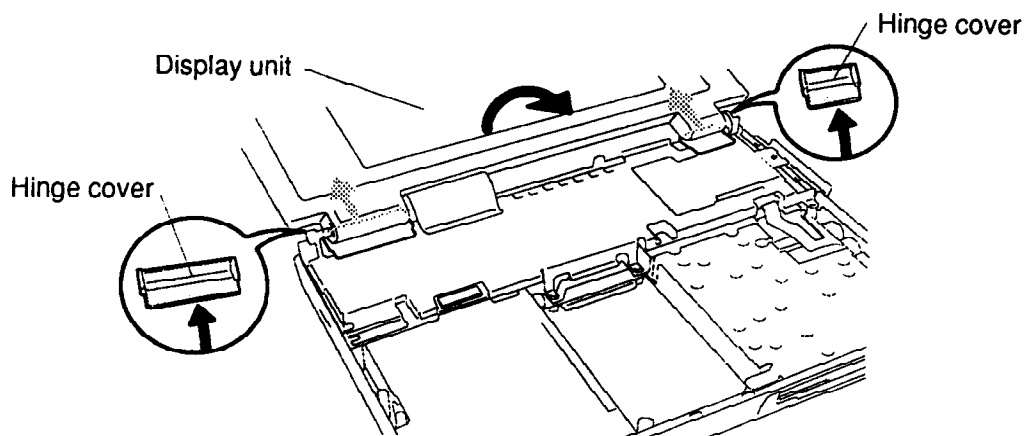

Figure 4-15 Removing the Hinge Covers
To remove the T1900/T1900C's display assembly, follow the steps below and refer to Figures 4-15 through 4-17.
3. Set the **display unit** at a 90° angle to the base and remove the **two hinge covers** from the left and right hinges (Figure 4-15).
To install the T1900/T1900C's display assembly, follow the steps below and refer to Figures 4-15 through 4-17.
CAUTION: *If you replace a cable with a new one, be sure to bend and route it as indicated in Figures 4-15 through 4-17 so that it fits snugly and will not be pinched by the top cover or other components.*
9. Set the display unit at a 90° angle to the base and insert the two **hinge covers** under the left and right hinges (Figure 4-15).